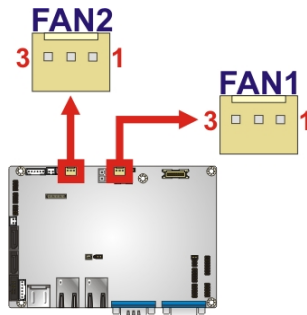

Figure 3-5: Fan Connector Locations
- CN Location:** See Figure 3-5